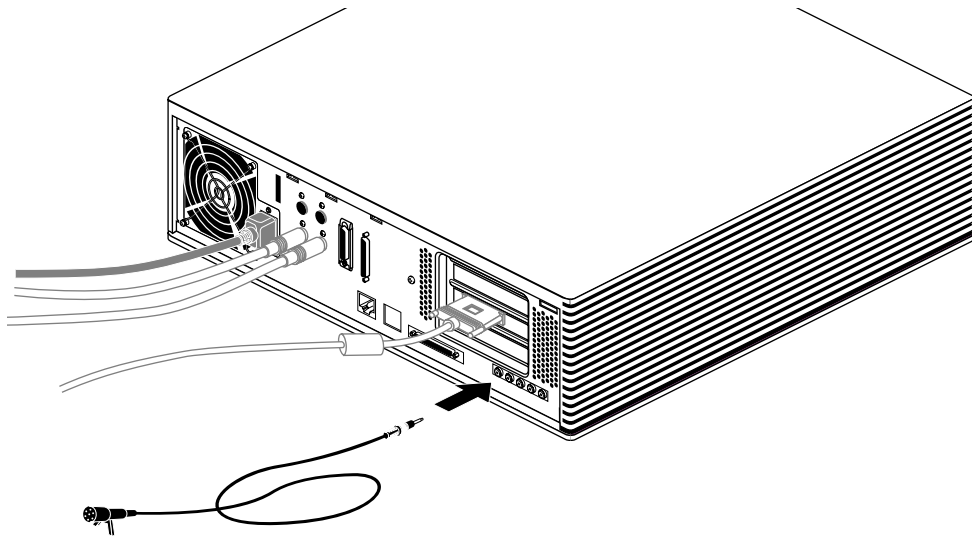

Figure 2-13 Connecting the Microphone
4. Connect the microphone to the connector above the microphone icon on the back of the Indigo² IMPACT workstation, as shown in Figure 2-13.